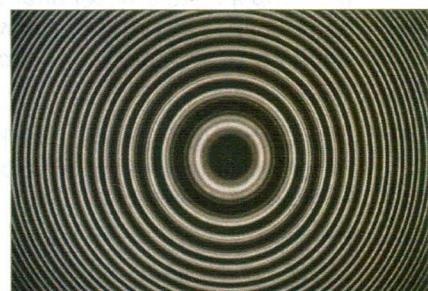

Figure 9d
- Rotating the polarization filter by a further 90° yields the pattern shown in Figure 9d. These fringes arise from the σ -polarized components and are noticeably less intense.